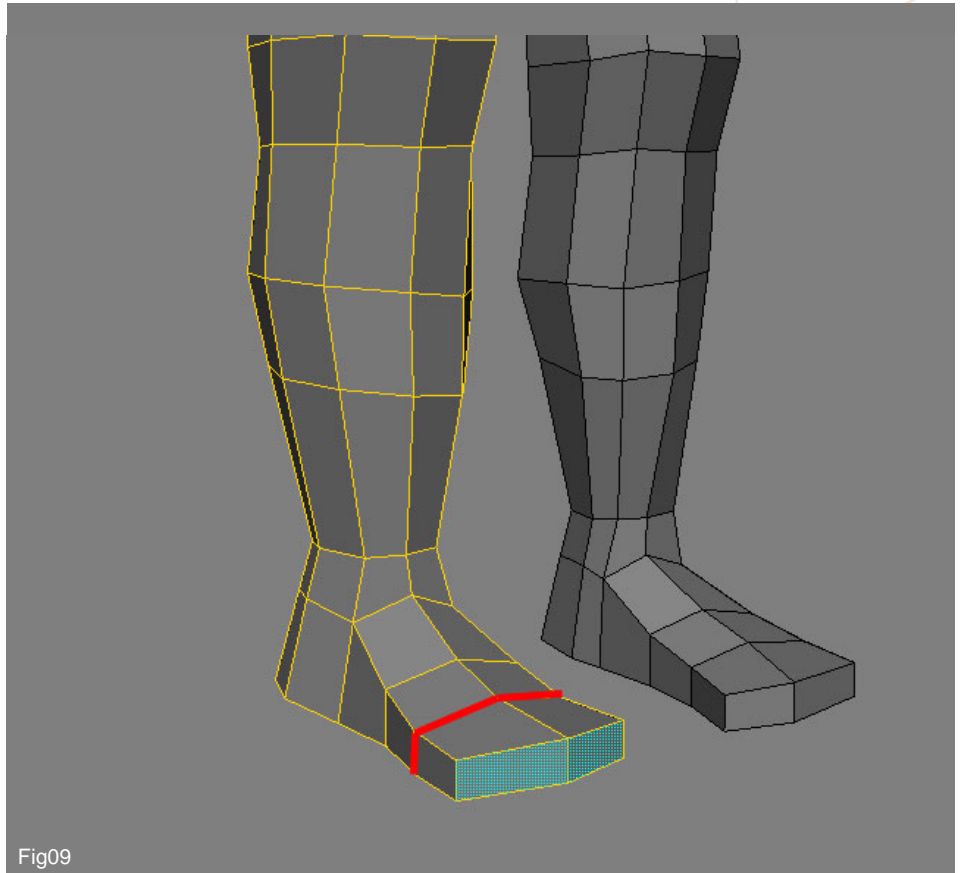

Fig09
9. Extrude the two polygons again, and add a new cut (shown in red in Fig 09) to create a better curvature. Also, take some time to adjust the shape of the foot.